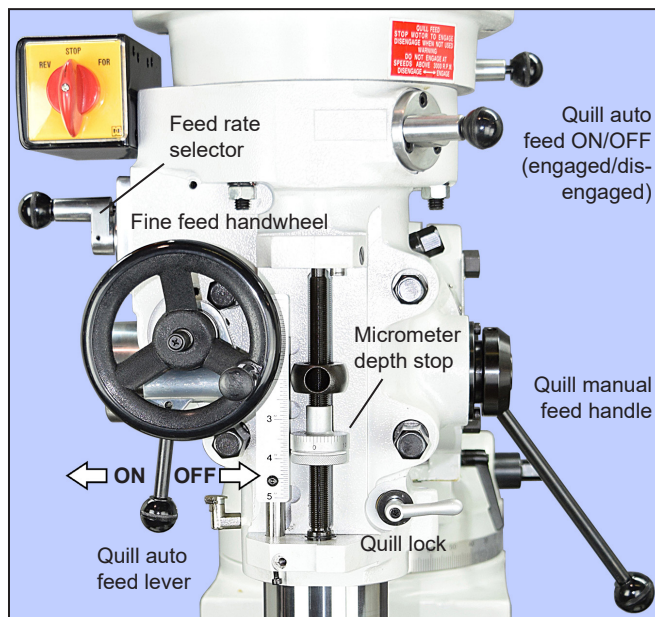

Figure 3-16 Quill controls
In this mode the mill functions like a standard drill press — lower the quill using the quill manual feed handle, Figure 3-16.
1. Set the micrometer depth as required, Figure 3-16.